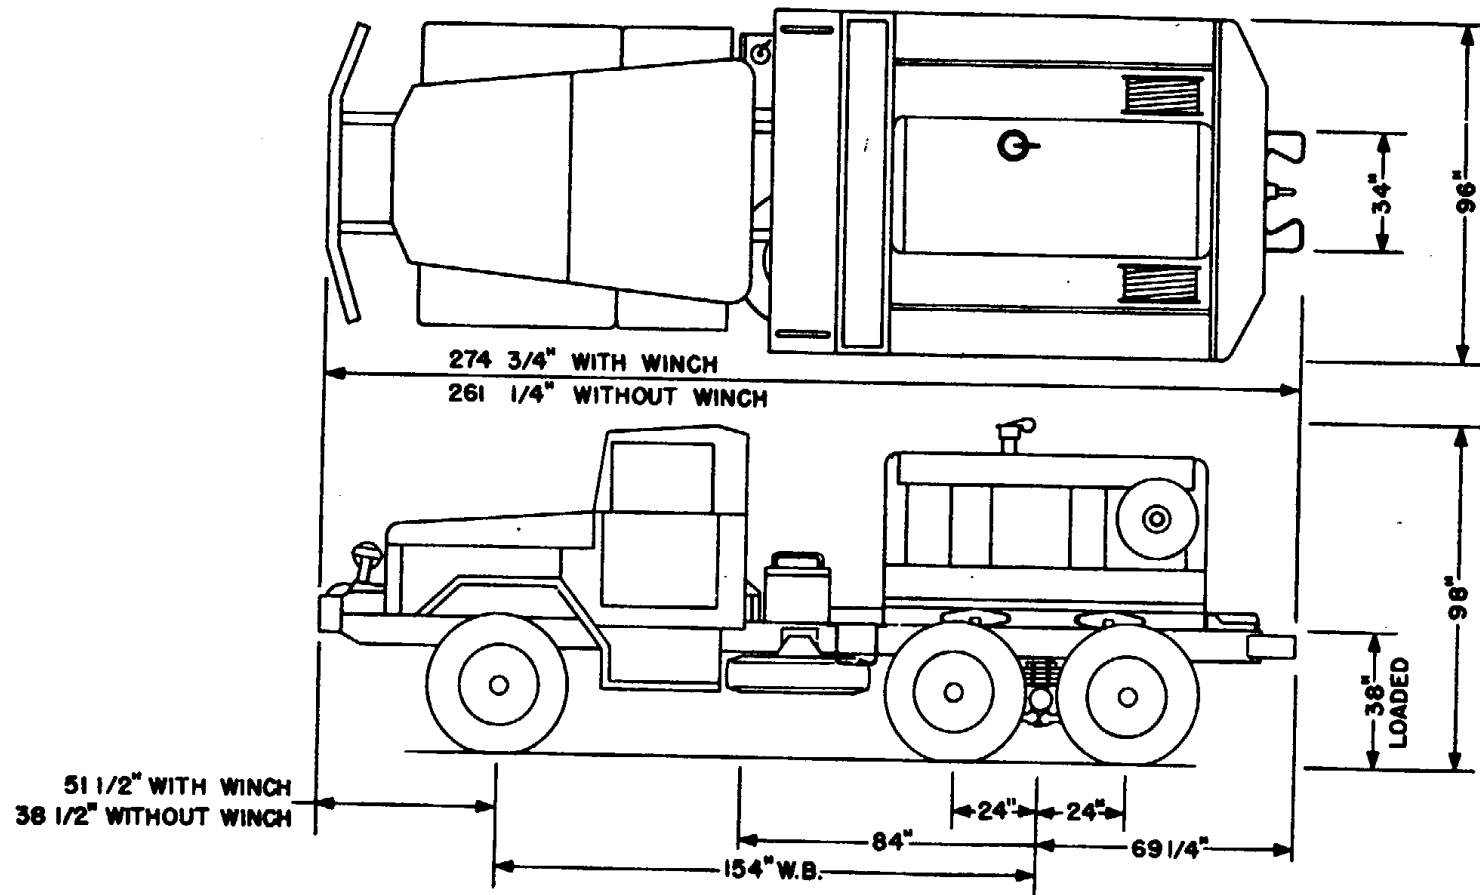

Figure 5. Shipping dimensions
e. Dimensions and Weights (fig. 5).